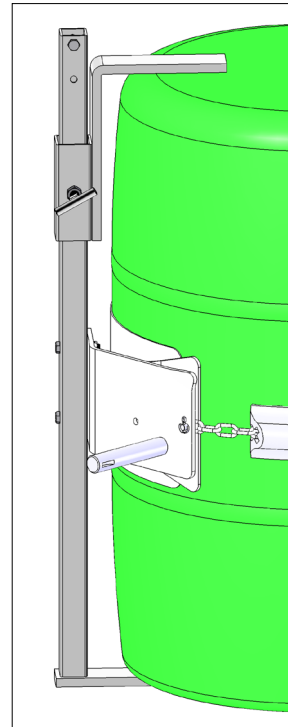

Figure 2.1
1. **Stainless Steel Bracket Assembly Kit # 4556SS-P** is **required** to handle a RIMLESS plastic drum (figure 2.1), and is also recommended for a fiber drum. The Bracket adjusts for a 31” to 39” (79 to 99 cm) tall drum. You can also handle a rimmed drum with the Bracket installed.